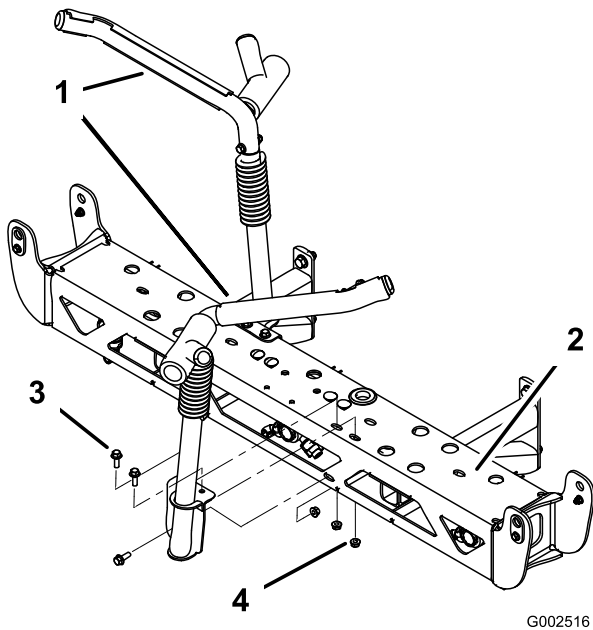

Figure 27
2. Install the boom transport cradles to the center boom using 6 bolts (3/8 x 1-1/4 inches) and 6 lock nuts (3/8 inch). Orient them as shown in Figure 27.